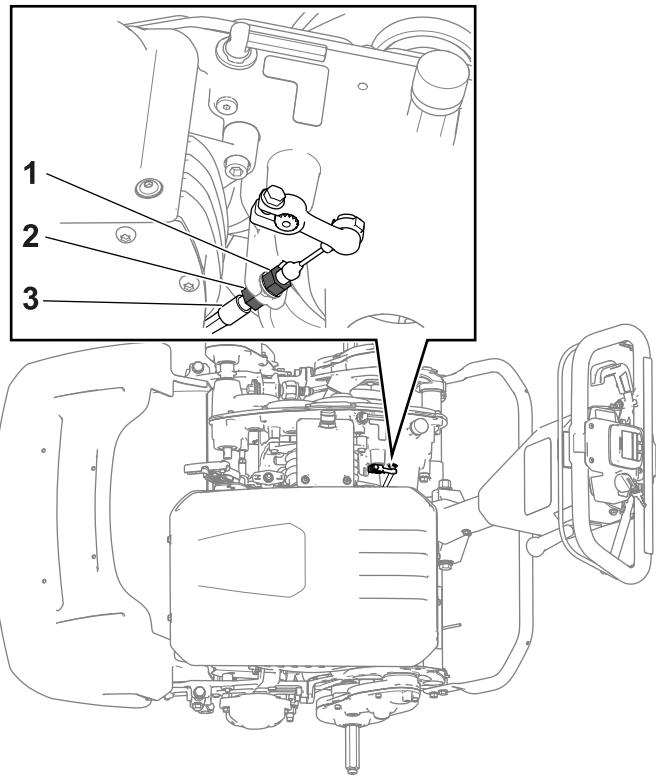

Figure 35
- To increase the cable tension, loosen the front-cable jam nut and tighten the rear jam nut (Figure 35). Repeat step 2 and adjust the tension if necessary.
nut (Figure 35). Repeat step 2 and adjust the tension if necessary.